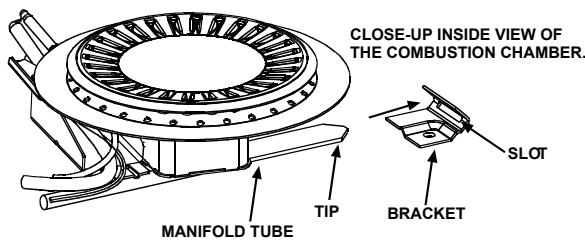

FIGURE 31.
3. Insert the new manifold/burner assembly into the burner compartment, making sure that the tab of the manifold tube engages the slot of the bracket inside the combustion chamber (Figure 31).